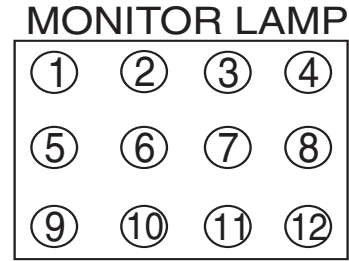

Figure 5. Monitor Lamp
10. **Monitoring Lamp** – Depending on which numbered lamps light up, indicates the status of the machine (Figure 5).